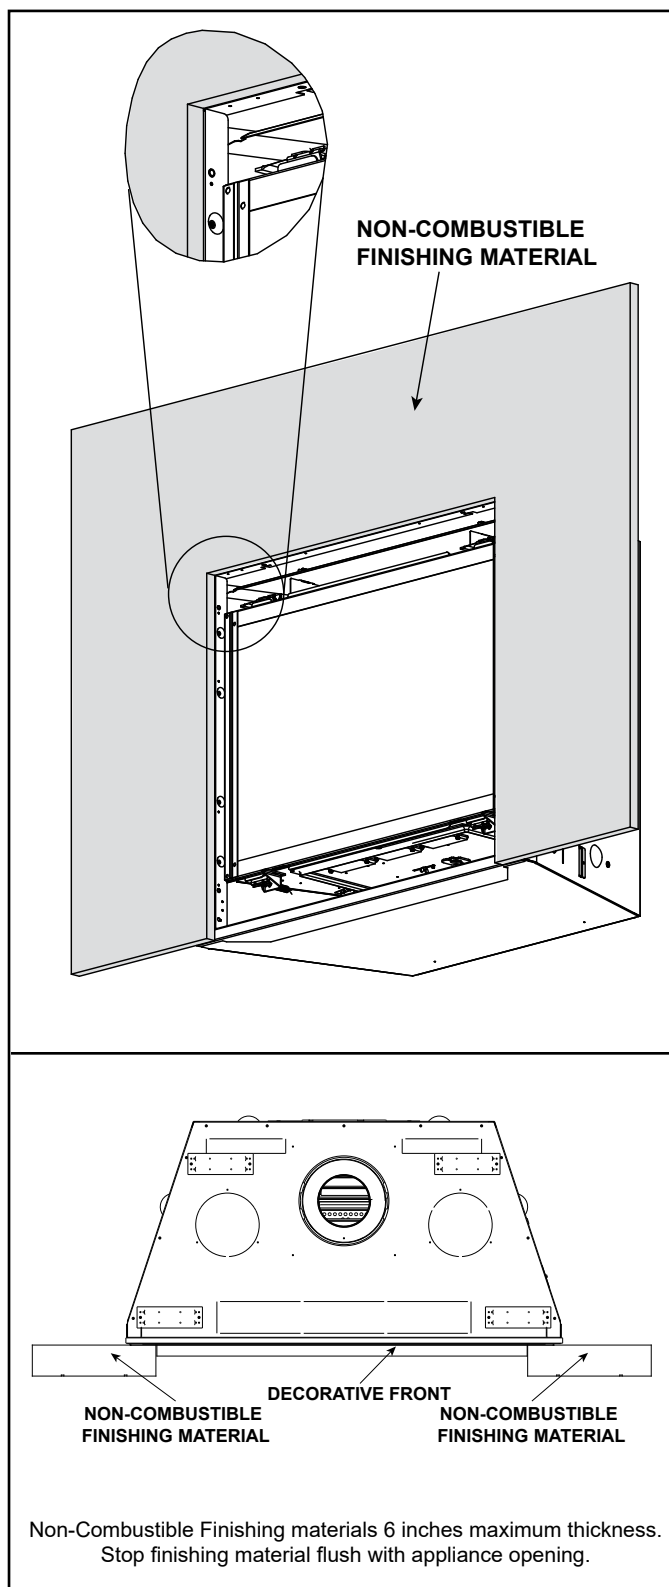

Figure 10.14 Inside Fit Method
- B. Finish material 0-6 inch thick: Use this method with Inside fit fronts. Finishing strips not required. See Figure 10.14.